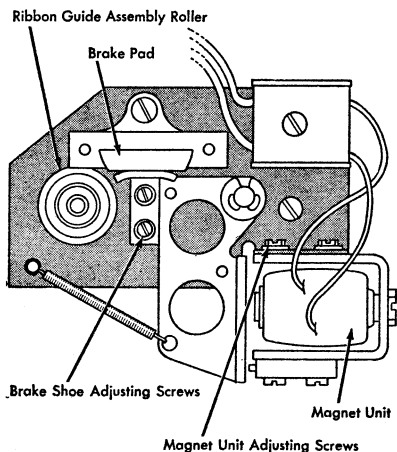

Figure 7. Stationary Magnet Unit Assembly
5. STATIONARY MAGNET UNIT ASSEMBLY. Adjust the magnet unit left or right by means of the magnet unit adjusting screws so that with the armature held manually against the magnet unit rubber stop, there is a clearance of .016" to .020" between the magnet core and the armature. With the armature attracted to the magnet the brake shoe should clear the brake pad by a maximum of .016". Adjust by means of the brake shoe adjusting screws. The ribbon must be held fast by the stationary brake with the armature dropped (Figure 7).